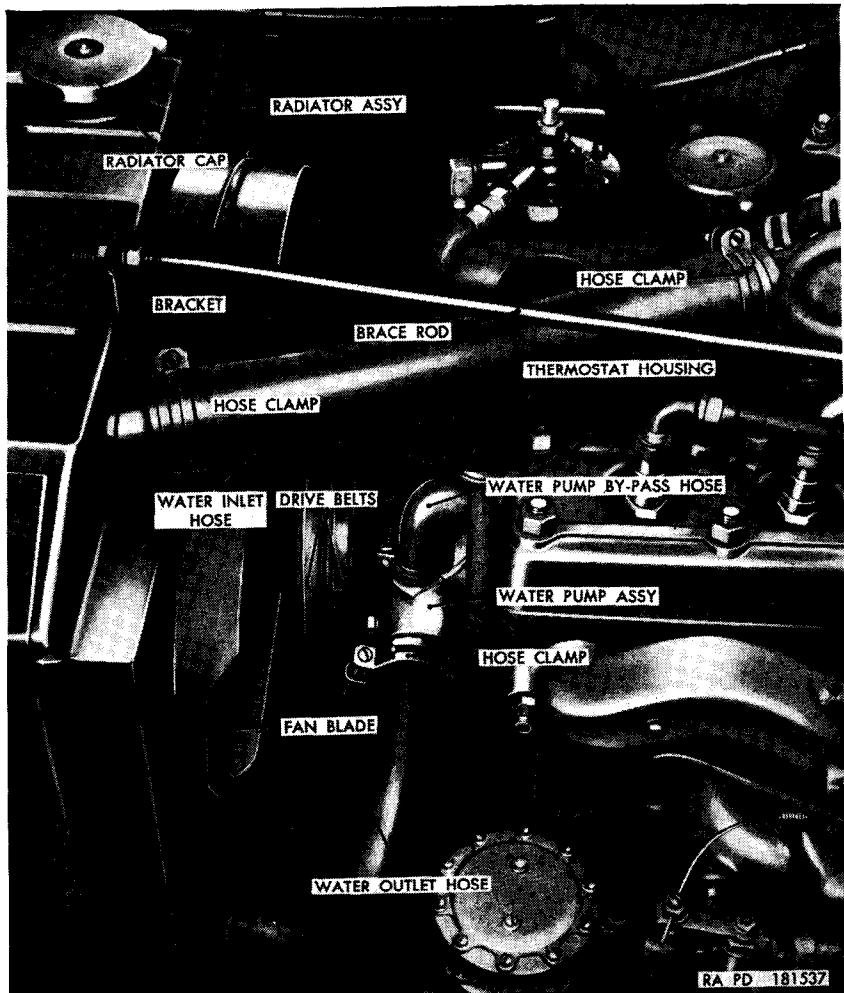

Figure 39. Cooling system.
- (1) *General.* The cooling system (fig. 39) is fully sealed and pressurized. The system consists of a water pump, water pump bypass, fan, drive belts, radiator, thermostat, and connecting hose. Water is drawn down through the radiator to the bottom thence through the water outlet hose to the water pump which forces it through the cylinder block, cylinder head, and the water inlet hose to the top of the radiator. Air, for cooling the water, is drawn through the radiator by the fan. Correct operating temperature is maintained by the thermostat.
- (4) *Water pump assembly*. The water pump assembly (fig. 39) is the centrifugal-type, located at the front of the cylinder block.
- (5) *Fan*. The fan has four blades and is mounted on the fan and water pump pulley. The water pump and fan are driven by a matched pair of V-belts.
- (1) Drain the cooling system (par. 121).
- (2) Remove the radiator guard (par. 263).
- (3) Loosen the nut on the rear end of the brace rod (fig. 39). Loosen the nut on the front end of the brace rod, securing the rod to the bracket, sufficiently to permit the rod to be pulled up out of the bracket. Lift the rod out of the bracket and swing it toward the rear of the vehicle to clear the radiator assembly.
- (4) Loosen the two hose clamp screws on the water inlet hose (fig. 39) and remove hose. Loosen the two hose clamp screws on the water outlet hose (fig. 39) and remove the hose.
- (3) Install water inlet hose (fig. 39) and tighten both hose clamp screws. Install water outlet hose (fig. 39) and tighten both hose clamp screws.
- (4) Swing the brace rod (fig. 39) toward the front of the vehicle and align rod with slot in bracket on the radiator assembly. Position flat washer against the rear nut at the front end of the rod, position lockwasher and flat washer against the front nut at the front end of the rod. Slide the rod down into the slot. Make sure that one flat washer is at the rear of the bracket and one flat washer at the front. Adjust the rear nut so that the washer is snug against the rear of the bracket. Tighten the nut at the front end of the rod. Fill the cooling system (par. 121) and check for leaks. Install the radiator cap. Start the engine and run until normal operating temperature is reached. Recheck the coolant level.
- (2) Remove the fan and generator drive belts (par. 123b).
- (3) Remove the water outlet hose (par. 122a(4)).
- (4) Loosen the hose clamp screws securing the water pump bypass hose (fig. 39) to the water pump assembly and cylinder head and remove the hose.
- (6) Remove four bolts and lockwashers securing the water pump (fig. 39) to the cylinder block and remove the pump and gasket.
- (2) *Water pump assembly.*
- (b) Position pump in opening in front of cylinder block, at the same time, sliding water pump bypass hose (fig. 39), with clamps in place, over connections on water pump and cylinder head.
- (d) Tighten hose clamps securing the water pump bypass hose (fig. 39) to the water pump and the cylinder head.
- (e) Install the water outlet hose (fig. 39), with hose clamps, on the radiator outlet and the water pump connections, and tighten the hose clamp screws securing the hose.
125. Radiator and Water Pump Bypass Hose (fig. 39)
a. Removal. Drain cooling system (par. 121). Remove three screws and lockwashers holding thermostat housing (fig. 39) to cylinder head. Loosen hose clamp screw on radiator end of water inlet hose (fig. 39). Lift thermostat housing from cylinder head, being careful not to damage thermostat, and pull inlet hose from radiator. Use pliers to remove thermostat retainer from housing and remove thermostat. Discard gasket.